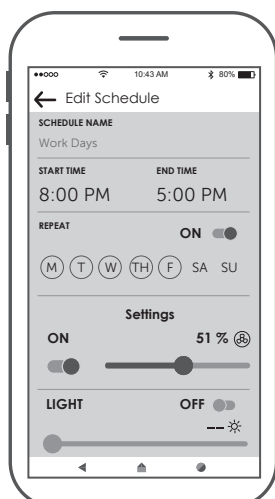

Figure 4
- ☐ 4. If installing the light kit, skip this step. Assemble the light kit wire cover to the light kit using the two key slots. Replace the removed screw and secure all three screws. (Figure 4)
- ☐ 4. To make fan operational, install two 3V batteries (included) in hand-held remote transmitter, with fan power off. Then, follow the remote code setting process. If not used for long periods of time, remove battery to prevent damage to transmitter. Store the remote away from excessive heat or humidity. (Figure 4)
4. Select your WiFi router and enter the WiFi password to connect your fanSync WiFi receiver. It will take 1-2 minutes to connect. After your WiFi receiver is connected, you can now name your ceiling fan in the APP and customize your settings. (Figure 4)